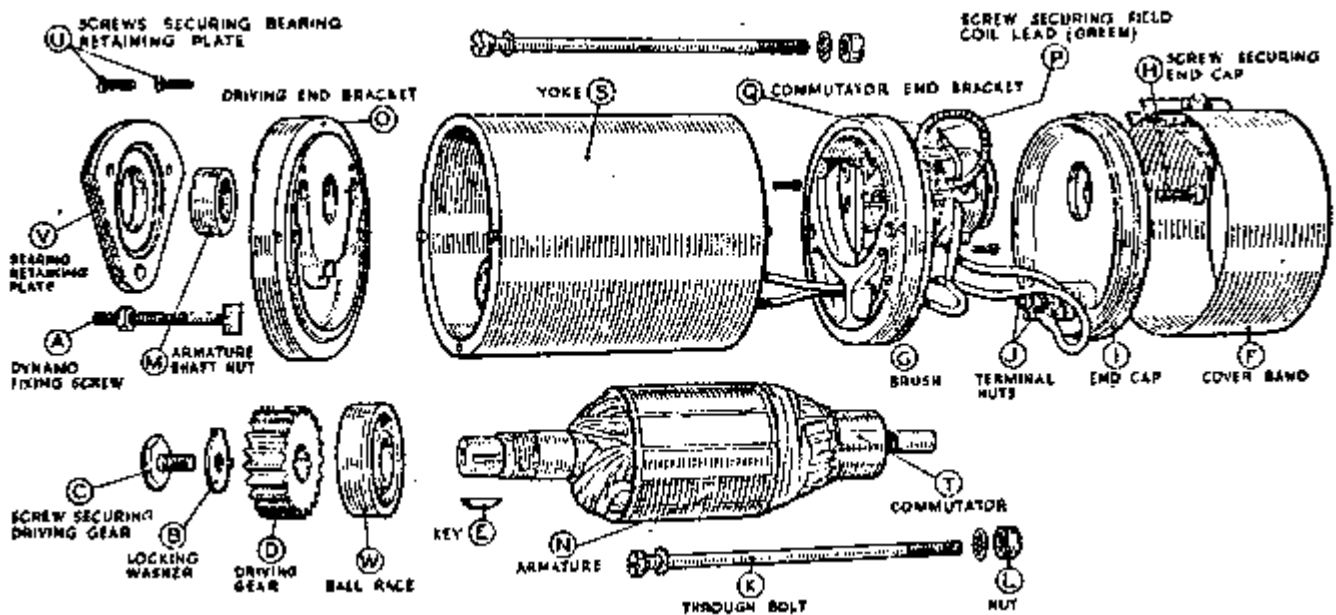

Fig. 59. Exploded view of dynamo
When replacing, slide the dynamo through the band clip so that fixing screw (A, Fig 59) passes through its hole in the end cover and the gears mesh correctly. Tighten the end nut and the band clip fixing screws and remake the connections to the dynamo terminals
- (a) Bend back the tag on the washer (B, Fig. 59) locking the screw (C) securing the driving gear (D) and remove the screw. Withdraw the gear from the dynamo shaft by carefully levering it off by means of an extractor. Remove the key (E) from the shaft.
- (b) Remove the cover band (F), hold back the brush spring and lift the brushes (G) from their holders.
- (c) Take the screw (H), with spring washer, from the centre of the black moulded end cap (I). Draw the cap away from the end bracket, take off nuts (J) and spring washers, and lift the connections off the terminals.
- (d) Unscrew and remove from the driving end bracket, the two bolts (K) securing the driving end bracket (O) and commutator end bracket (Q) to the dynamo yoke (S). Hold the nuts (L) at the commutator end whilst unscrewing the bolts, and take care not to lose the nuts.
- (e) Draw the armature (N) complete with end bracket (O) out of the yoke.
- (f) Unscrew the nut (M) from the driving end of the dynamo shaft and remove the armature from the end bracket, using a hide or wooden mallet.
- (g) Take out the screw (P) securing the green field coil lead with the yellow sleeve to commutator end bracket and remove the end bracket (O), withdrawing the connectors through the slot in the insulating plate.
The ball bearing (W, Fig. 59) at the driving end is replaced as follows:-